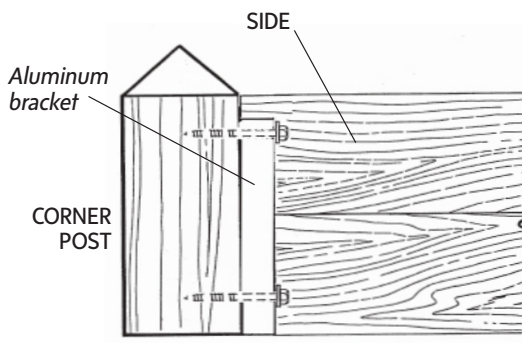

Figure 1: Bottom edges of aluminum bracket, SIDE and CORNER POST should align
3. Locate the aluminum brackets that are mounted on the interior face and flush with the bottom edge of each SIDE. Place that bottom edge on the ground flush with the bottom of a CORNER POST (Fig. 1). Attach each CORNER POST to two SIDES by inserting the PHILLIPS SCREWS through the pre-drilled holes in each aluminum bracket and into the CORNER POSTS. Be sure to enter the wood straight, rather than at an angle, and tighten each screw fully.